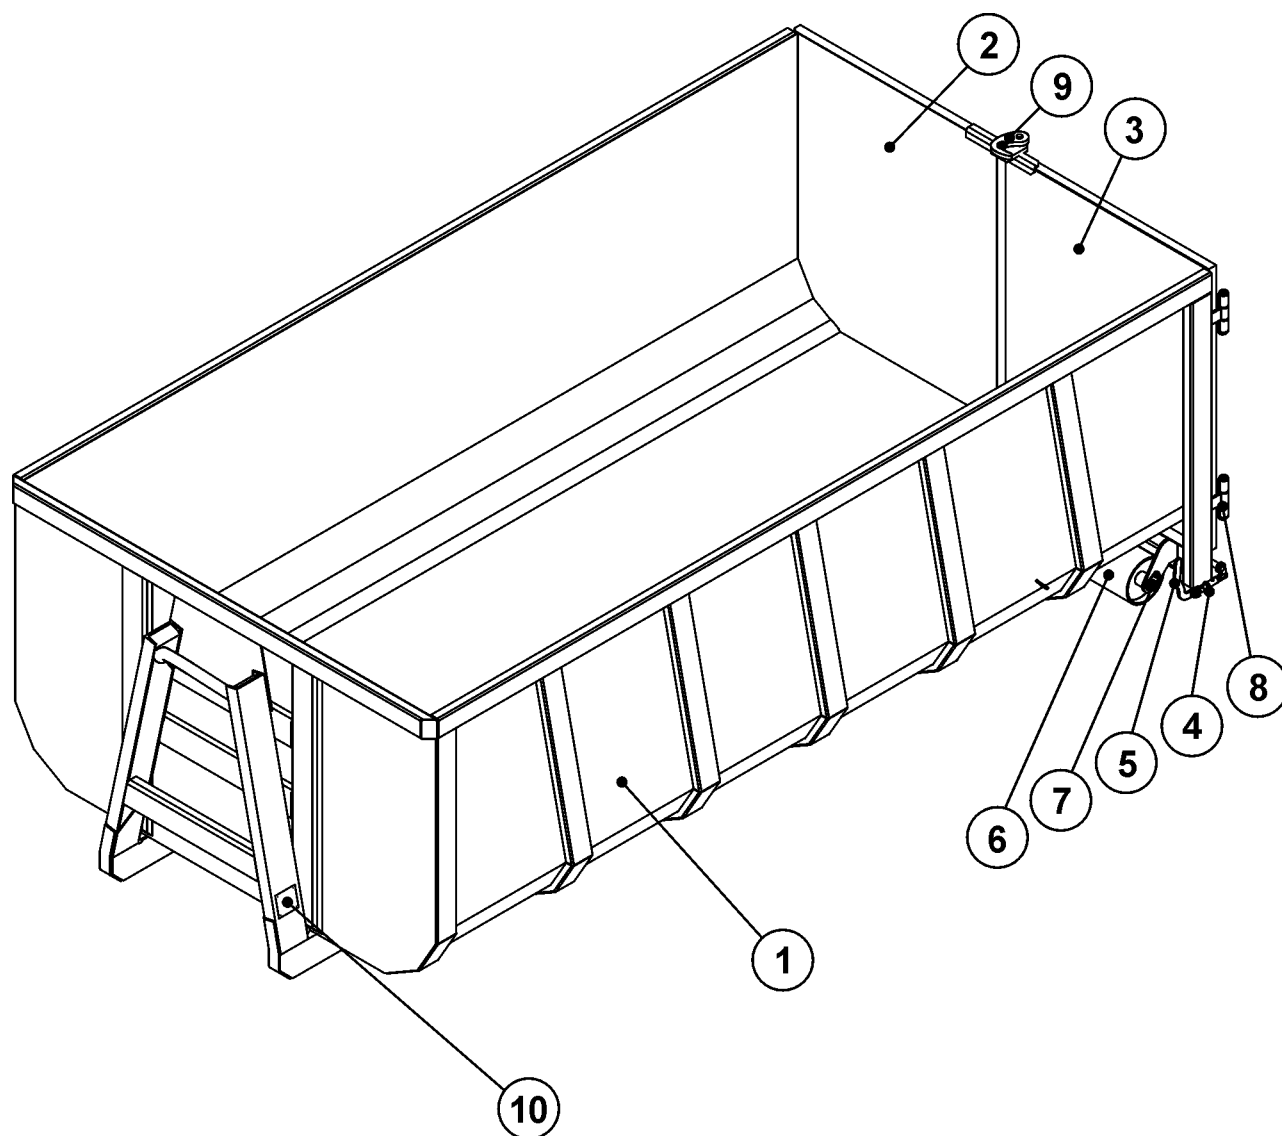

FIG. 7. AGRICULTURAL CONTAINER
are two doors (2), (3), which are fastened with hinges to the crate structure. On the left rear door there is a lock (9), which protects the doors against accidental opening. In the rear part of the container there are special wheels (6), which are used during coupling/uncoupling of the container. The structure of the agricultural container is shown on the Fig. 7.